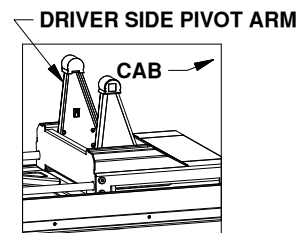
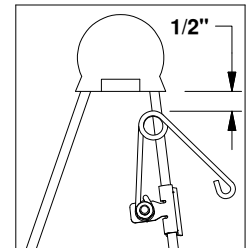

Figure D3: Base view.
Figure D4: Driver side pivot arm.
2. Locate the flange which will be closest to the truck cab on the driver side pivot arm, see Figure D3. The clip should be placed so that when the spring's coil is in line with the edge of the arm there will be 1/2" of clearance between the bottom of the rubber bumper and the top of the spring, see Figure D4. Drive the clip securely onto the flange with a hammer.